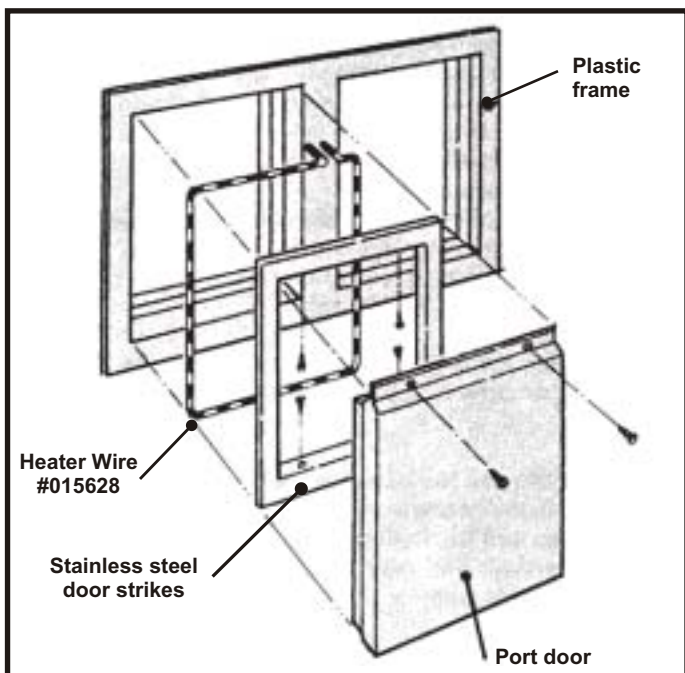

Fig. 9
- F. Replace the port door on the door frame and refasten the screws. See Fig. 9.